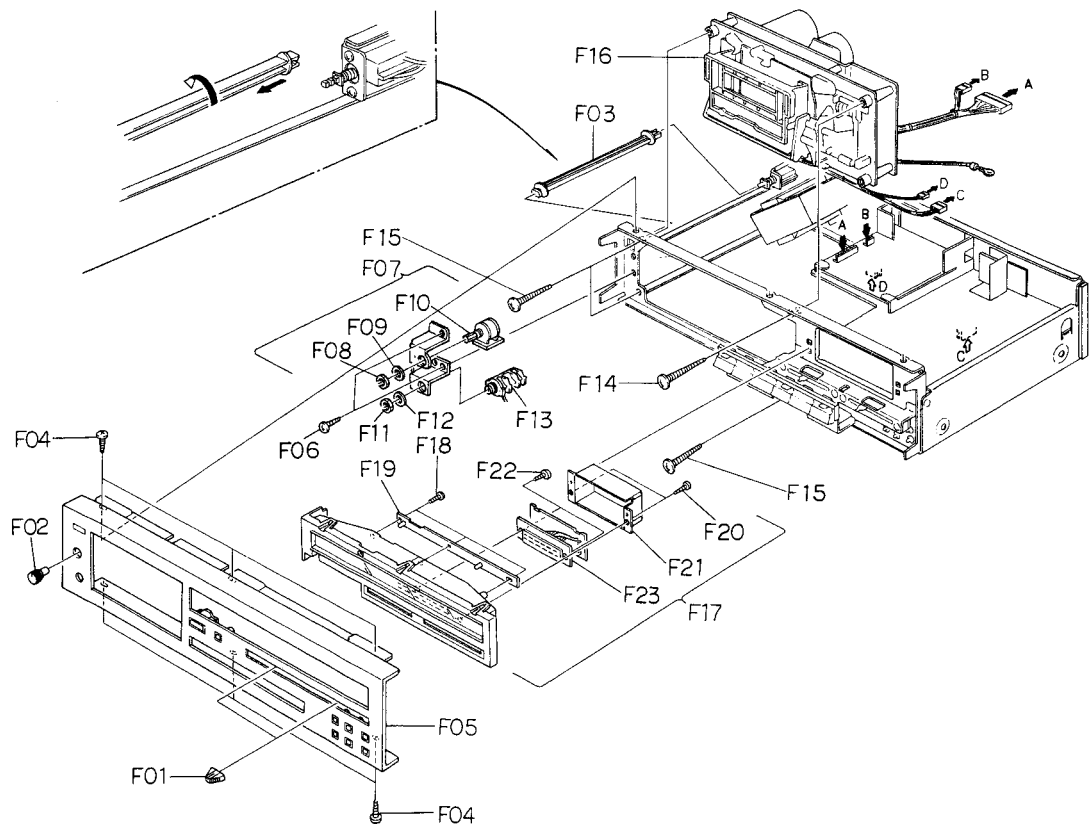

Fig. 2.2
Refer to Fig. 2.2.
- (1) Refer to Fig. 2.2. Remove Front Panel Ass'y, Logic P.C.B. Ass'y and Headphone Switch P.C.B. Ass'y referring to items 2.4 and 2.8.
- (2) Remove 2 connectors and the wires connected by wrapping from the F13 (Main P.C.B. Ass'y).
- (3) Remove F08, F09, F10, F11, F12 and the Record Switch Linkage from the Wire Holder of Record Switch, then disassemble F13 (Main P.C.B. Ass'y).
- (1) Refer to Fig. 2.2. Remove Level Indicator Ass'y referring to item 2.7.
- (2) Remove F14, then disassemble F15 (Control Switch Holder Ass'y).
- (1) Refer to Fig. 2.2. Remove Front Panel Ass'y referring to item 2.4.
- (2) Remove F16, then disassemble F17 (Switch P.C.B. Ass'y).
- (1) Refer to Fig. 2.2. Remove Mechanism Ass'y referring to item 2.6.
- (2) Press the Eject Button to open the Cassette Case Ass'y.
- (3) Remove F01, then disassemble the piston of the Pneumatic Damper Ass'y.
- (4) Remove F02 and F03 (Cassette Case Holder L Ass'y), then disassemble F04 (Cassette Case Ass'y).
- (5) Remove F05, then disassemble F06 (Cover Plate Ass'y).
- (2) Remove F07, then disassemble F08 (Tape Counter Ass'y).
- (2) Remove F01 and F02, then disassemble F03 (Flywheel Holder Ass'y) and F08 (Capstan Belt).
- (3) Remove F04, then disassemble F05 (Capstan Motor Ass'y).
- (4) Remove F06, then disassemble F07 (Control P.C.B. Ass'y).
- (5) Remove F09 (Supply Flywheel Ass'y), then disassemble F10 (Take-up Flywheel Ass'y).
- (6) After removing both Flywheel Assemblies, disassemble F11 (Thrust Washer 3 mm), F12 (Thrust Washer 2.6 mm), F13 (Flange Thrust Caps) and F14 (Flange Thrust Springs).